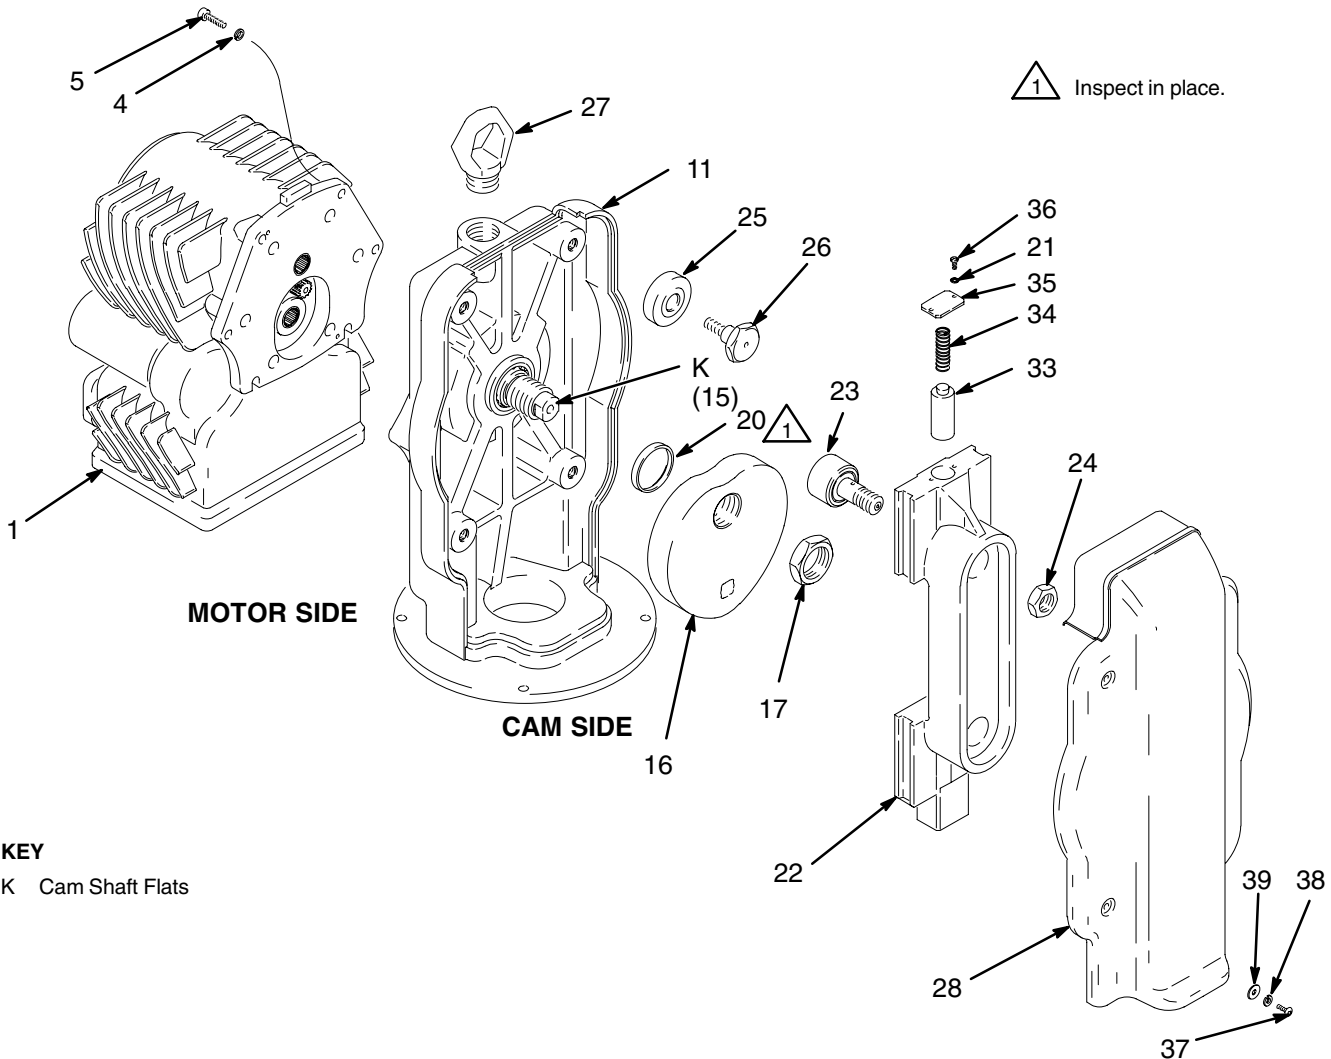
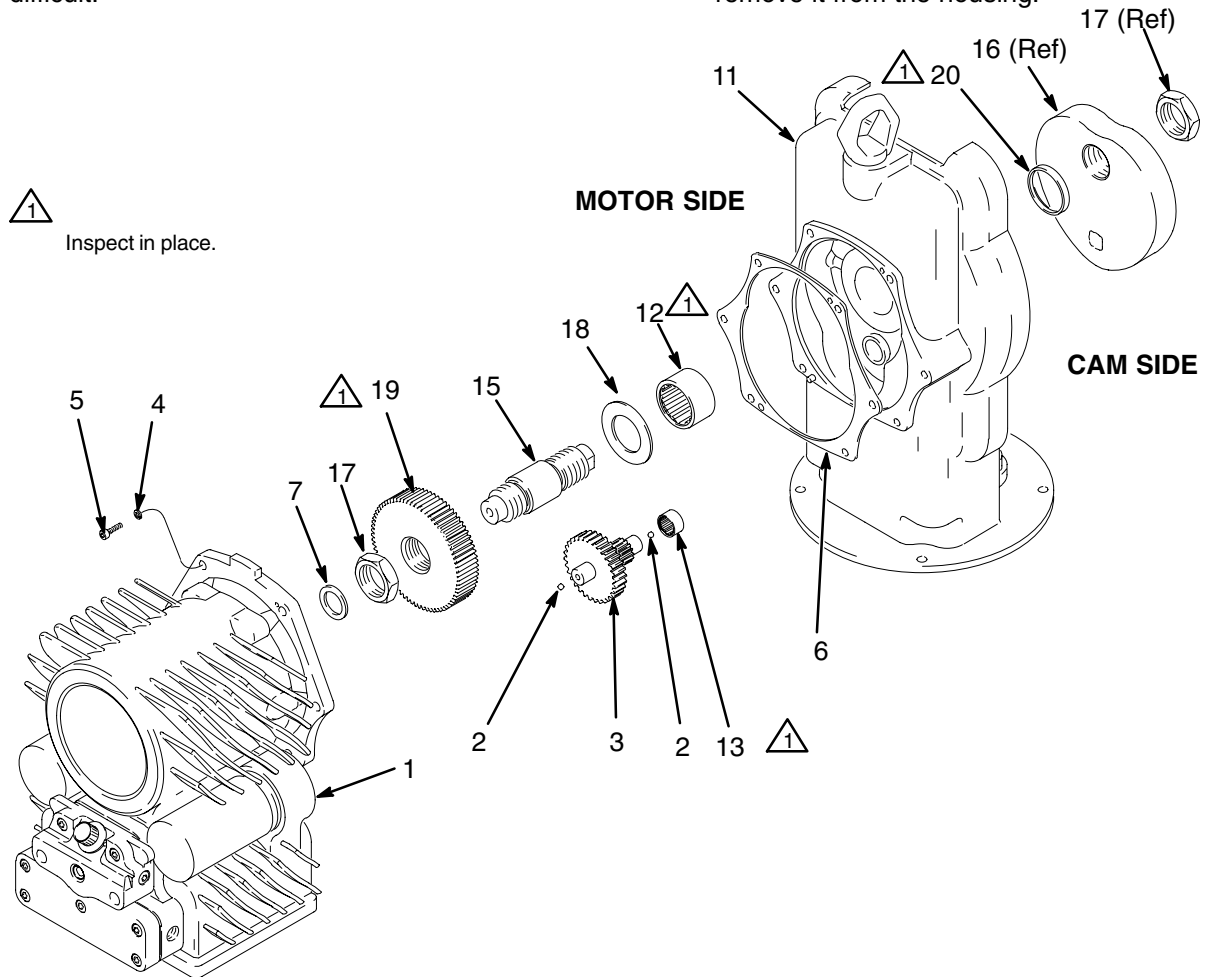

Fig. 4
Fig. 5
2. Check the Teflon bar (33, see Fig. 4) at least once a year. If the bar is less than 1 in. (25 mm) long, replace it. See **Service** to replace the bar.
2. Remove the screws (5) and washers (4), and pull the electric motor (1) away from the drive housing (11). See Fig. 5.
3. Remove the gasket (6) and gear reducer (3). Be sure the balls (2), which are heavily greased, remain in place. Inspect these parts for wear or damage.
4. Remove the screws and washers (37, 38, 39) from the drive section shield (28). Pull the shield off the drive housing (11). See Fig. 4.
5. Remove two shoulder screws (26) and guide wheels (25) on the same side of the carriage follower (22). Remove the carriage follower. Remove the other two shoulder screws and guide wheels.
6. Inspect the guide wheels and replace if worn. Inspect the two cam followers (23) attached to the carriage follower (22). If worn or damaged, remove the cam followers.
7. Remove the screws (36), washers (21), and retainer (35) from the top of the carriage follower (22). Slide the spring (34) and Teflon bar (33) out of the follower. Inspect the spring for damage. If the bar is less than 1 in. (25.4 mm) long, replace it.
8. Insert a 3/4 in. square driver or breaker bar in the square hole of the cam (16) to hold it steady. Using a large adjustable wrench, unscrew the nut (17).
9. With the cam shaft (15) in place in the drive housing (11), as shown in Fig. 4, hold the flats (K) of the cam shaft with a wrench to keep it from turning. Using the 3/4 in. square driver or breaker bar, unscrew the cam (16) from the shaft. Clean any grease from the cam.
10. Pull the cam shaft (15) out of the drive housing (11). Remove the thrust washer (7). See Fig. 5.
**NOTE:** As the reciprocator runs, the gear (19) tightens itself on the shaft (15). The torque level reached may be very high. Disassembly of these two parts will be very difficult.
11. Inspect the gear (19) in place for broken teeth or other damage. If the gear is damaged, clamp it in a vise. Remove the nut (17) and the thrust bearing (18) from the shaft (15). Then, using a large adjustable wrench and a cheater bar, grip the flats of the shaft and unscrew the shaft from the gear.
12. Inspect the bearing (12) inside the drive housing. If the bearing does not have visible damage, do not remove it from the housing. Inspect the seal (20) in place. Remove if damaged.
13. Inspect the bearing (13) inside the drive housing. If the bearing does not have visible damage, do not remove it from the housing.